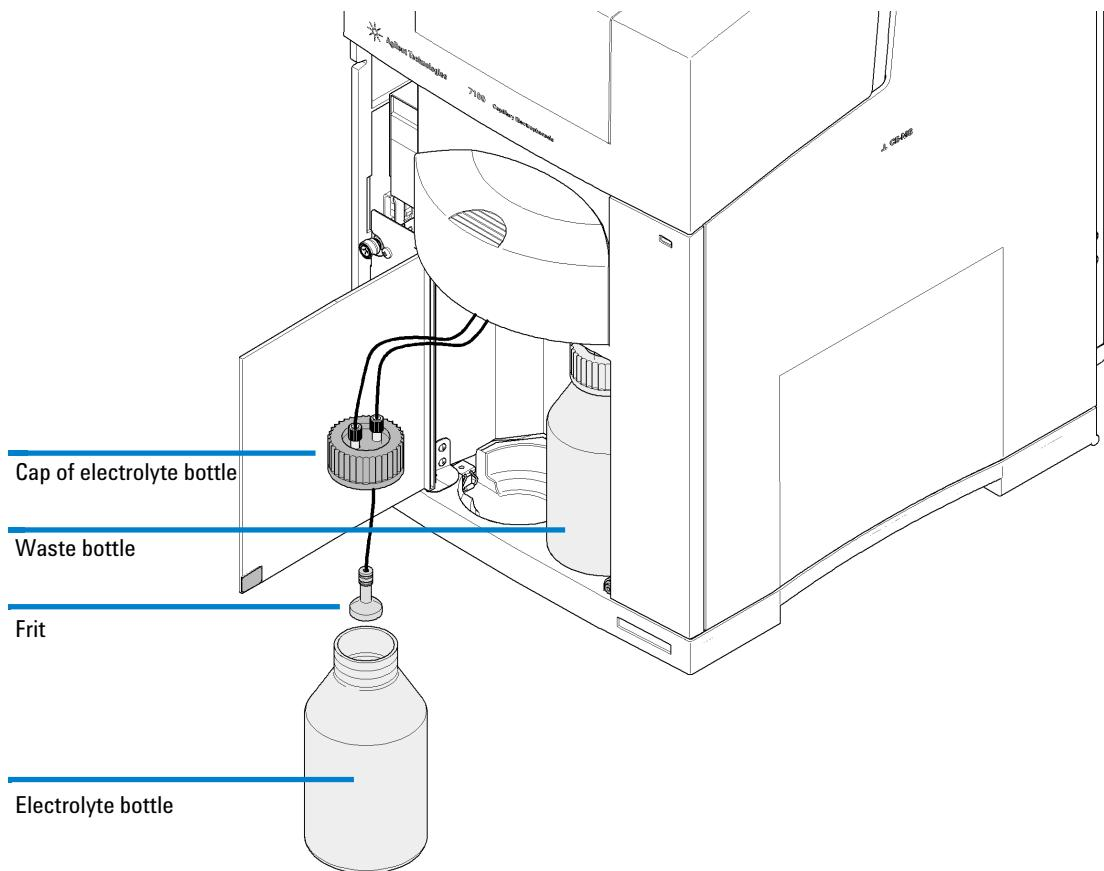

Figure 24 Filling the replenishment bottles
- 4 Take out the electrolyte bottle and unscrew the cap. The electrolyte bottle has a frit and tubing inside. Avoid contaminating the frit (see **Figure 24** on page 127).